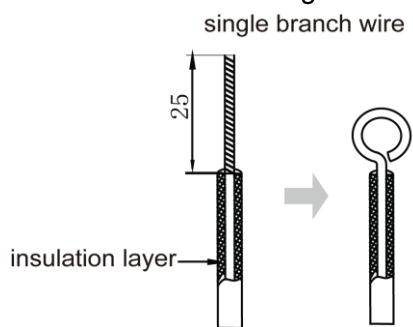

Fig 5.1.1
### (1) Connection of single branch wire (as shown in Fig 5.1.1)